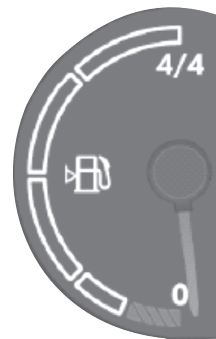

Fig.3-4
3.4 Fuel Level Gauge (Fig. 3-4)